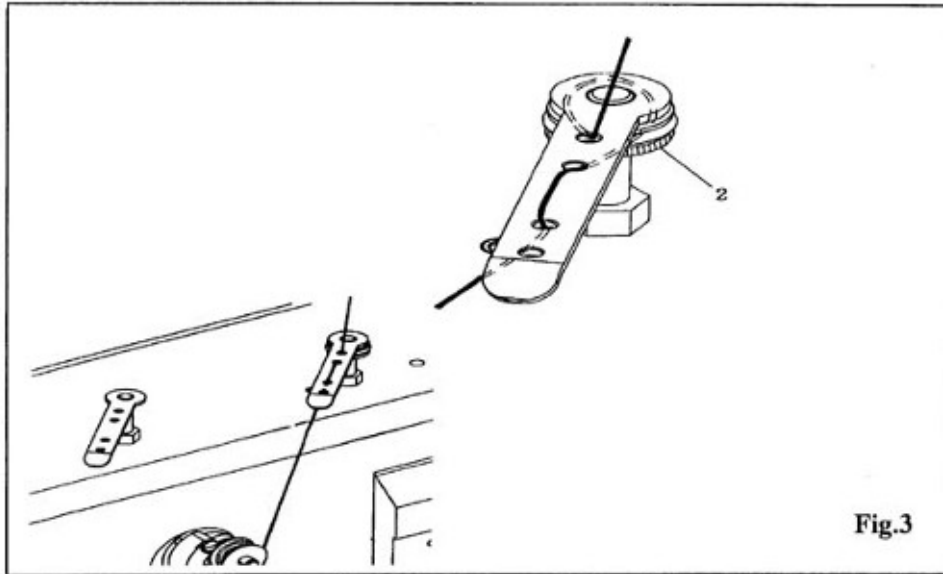

Fig.3
### 2) WINDING THE LOWER THREAD, REGULATING THE TENSION OF THE THREAD (Fig.3)
- ① Put an empty bobbin onto the bobbin shaft and thread the thread according to Fig 3
- ② Push the bobbin catch in the direction of the arrow
- ③ The bobbin is filled during the progress of the sewing.
- ④ The bobbinet stops automatically when the bobbin is full.
- ⑤ The tension of the thread on the bobbin can be adjusted with knurl-screw 2.